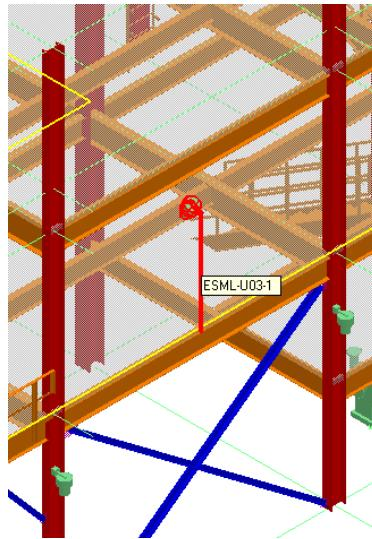

Figure 31: Selected Stanchion Mounting Electrical Light
2. Select the **ESML-U03-1** from the graphic view that you need to copy, as shown in Figure 31.